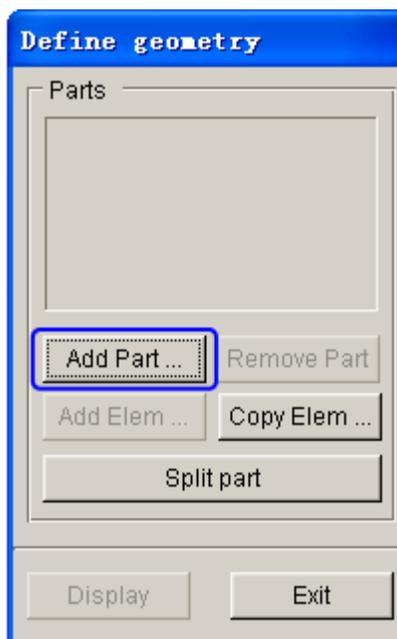

Figure 1.8 Define Geometry dialog box
3. The DEFINE GEOMETRY dialog box illustrated in Figure 1.8 is displayed.